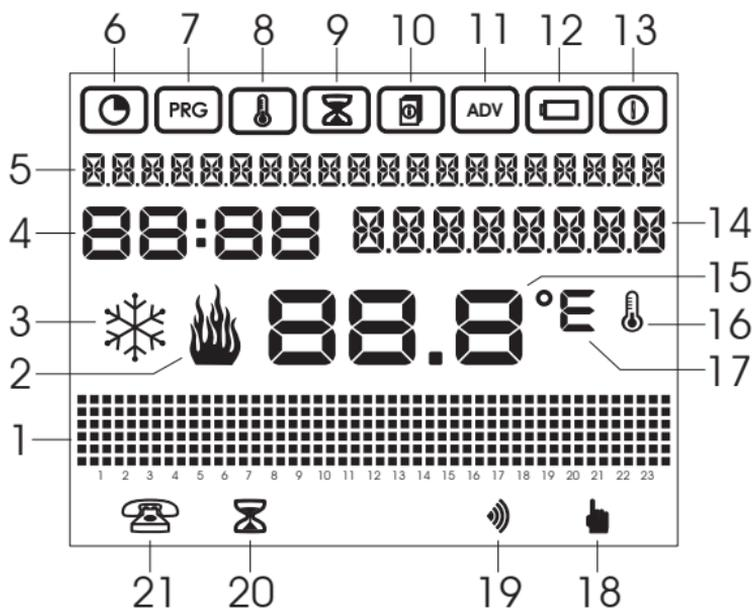

Figure 1
The LCD display reads the following information (Figure 1):
- When on the main page, it is possible to view more details about the current zone using keys  $\Delta$  and  $\nabla$ . If key  $\Delta$  is pressed when on field 14 (see Figure 1), the current zone name will appear (if it was entered; otherwise the reading “zona...” will appear).